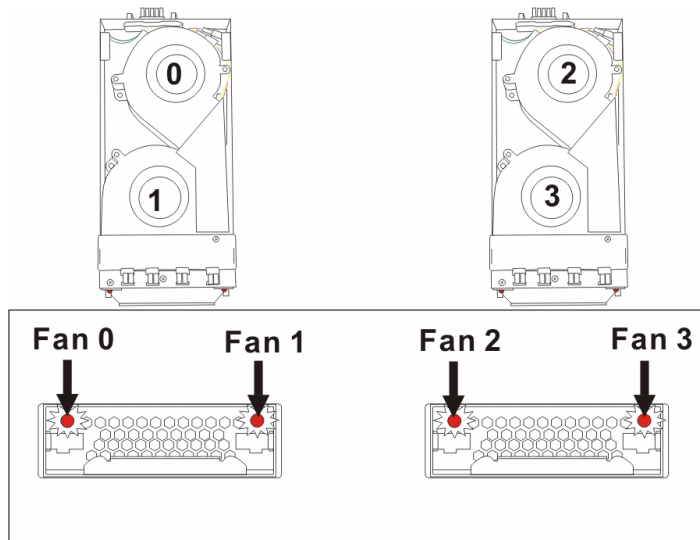

Fig. 4.7 Cooling Module LEDs and Cooling Fan Locations
Each cooling module has two (2) red LEDs on the back. Each LED corresponds to a single fan in the cooling module. (See *Figure 4.7*) When the LED is on, it indicates the fan has failed. When the LED is off, it indicates the fan is functioning properly.